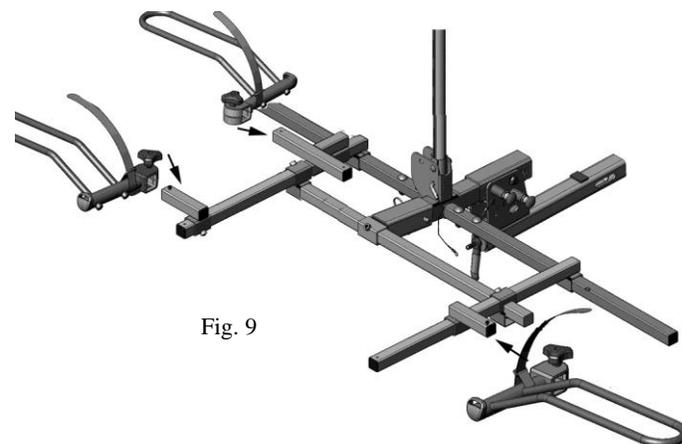

Fig. 9
Step 8: Install wheel holders as shown (Fig. 9)